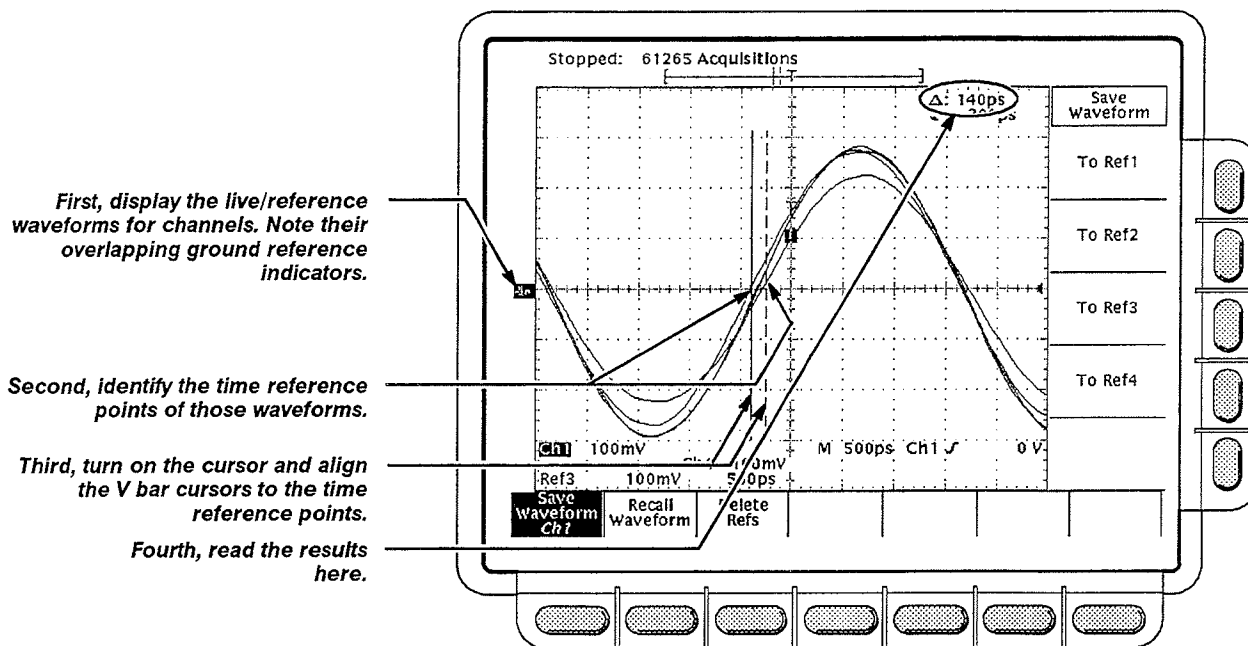

Figure 4-11: Measurement of Channel Delay
- Locate the point on the rising edge of the left-most waveform where it crosses the center horizontal graticule line. This is the *time reference point* for this waveform. Note the corresponding *time reference point* for the right-most waveform. See Figure 4-11.
- Rotate the General Purpose knob to align one cursor to the *time reference point* of the left-most waveform edge and the other cursor to the *time reference point* of the right-most waveform edge. (Press **TOGGLE** to switch between the two cursors.) See Figure 4-11.